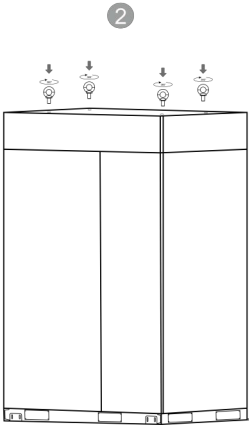
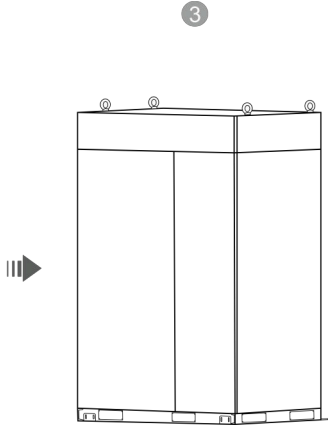

Figure.2
Figure.3
2. Insert the four hanging rings into holes on the top f the machine and then turn them clockwise until they are secured firmly. See the Figure.2 and Figure.3.